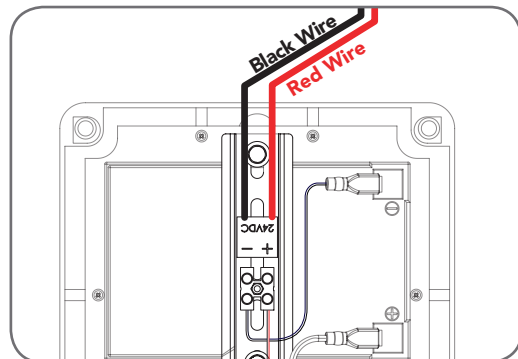

Fig 19.3
- Connect the red wire to the Battery Box's "+" terminal, and the black wire to the "-" terminal (**Fig. 19.3**).